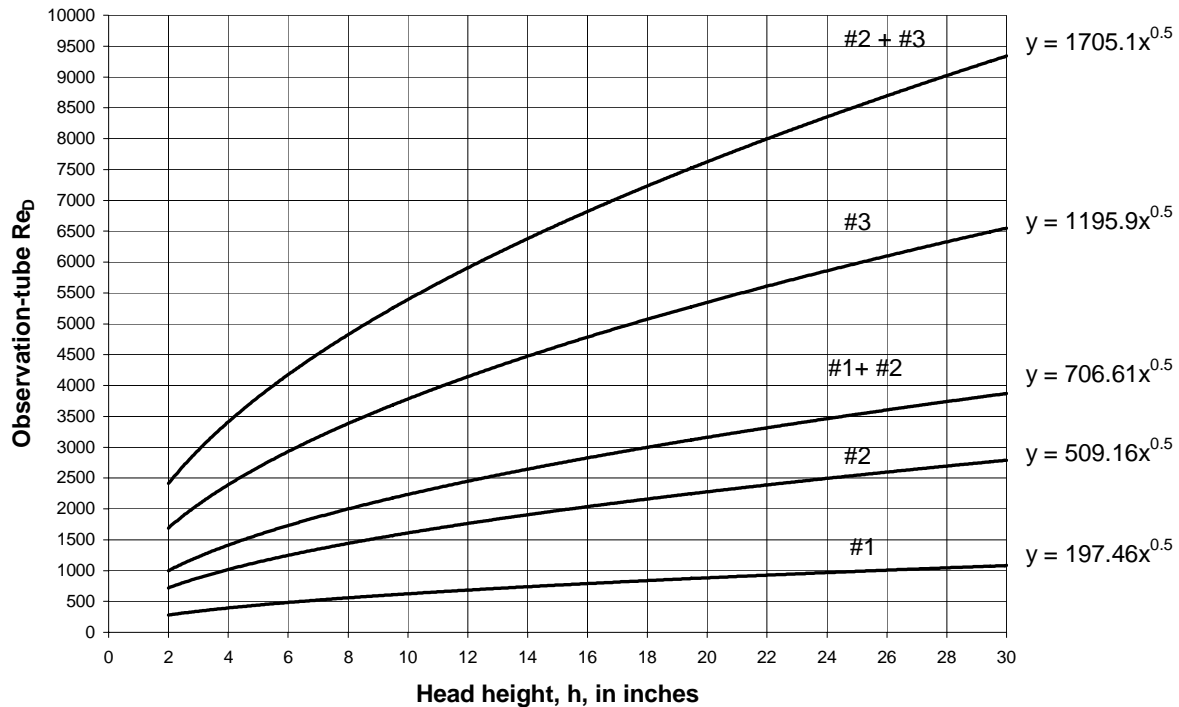

Fig.4 Observation tube Reynolds number versus head. $T_{H_2O} = 60^\circ F$.
Figure 4 is a graph of Re_D vs. head for the head-orifice meter for each orifice and certain combinations of orifices. The curves incorporate the velocity coefficients.
2. Conduct a series of runs. Use a digital camera (if available) to record the patterns made by the dye in the observation tube or sketch the pattern if the camera is not available. Start with a very low flow rate (and Reynolds No.) by closing the flow control valve and using the small bypass control valve to regulate the flow. Increase the flow rate gradually and eventually reach the fully turbulent regime. Select orifices as necessary to cover the three flow regimes. Make sure the equilibrium value of h is established before using Fig. 4 to obtain Reynolds number. Be sure to identify as closely as possible the Reynolds number for transition from laminar to turbulent flow.